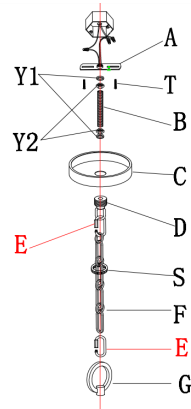

Fig. 3
CONNECTING THE WIRE (FIG. 3)
11. Connect the electrical wires as shown in Fig. 3, making sure that all wire connectors are secured. If your junction box has a ground wire (green or bare copper), connect fixture's ground wire to it. Otherwise, connect fixture's ground wire directly to crossbar using green screw provided.